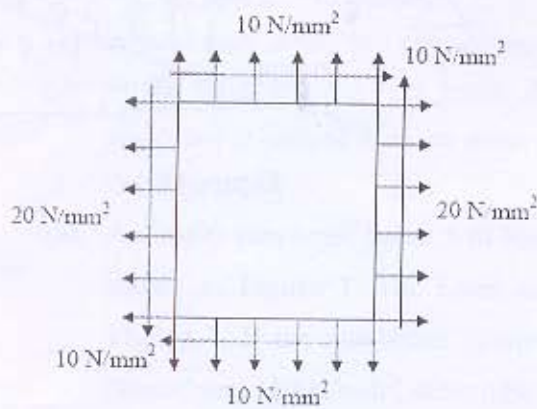

Figure 2
- A rectangular block of material as shown in **Figure 2** is subjected to a tensile stress of 20 N/mm^2 on one plane and a tensile stress of 10 N/mm^2 on a plane at right angle,